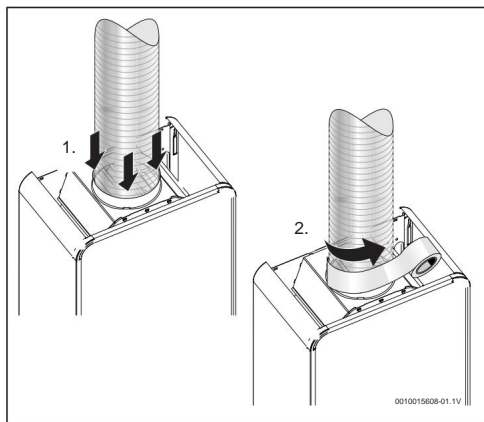

Fig. 12
- be insulated with suitable material (Fig. 12),